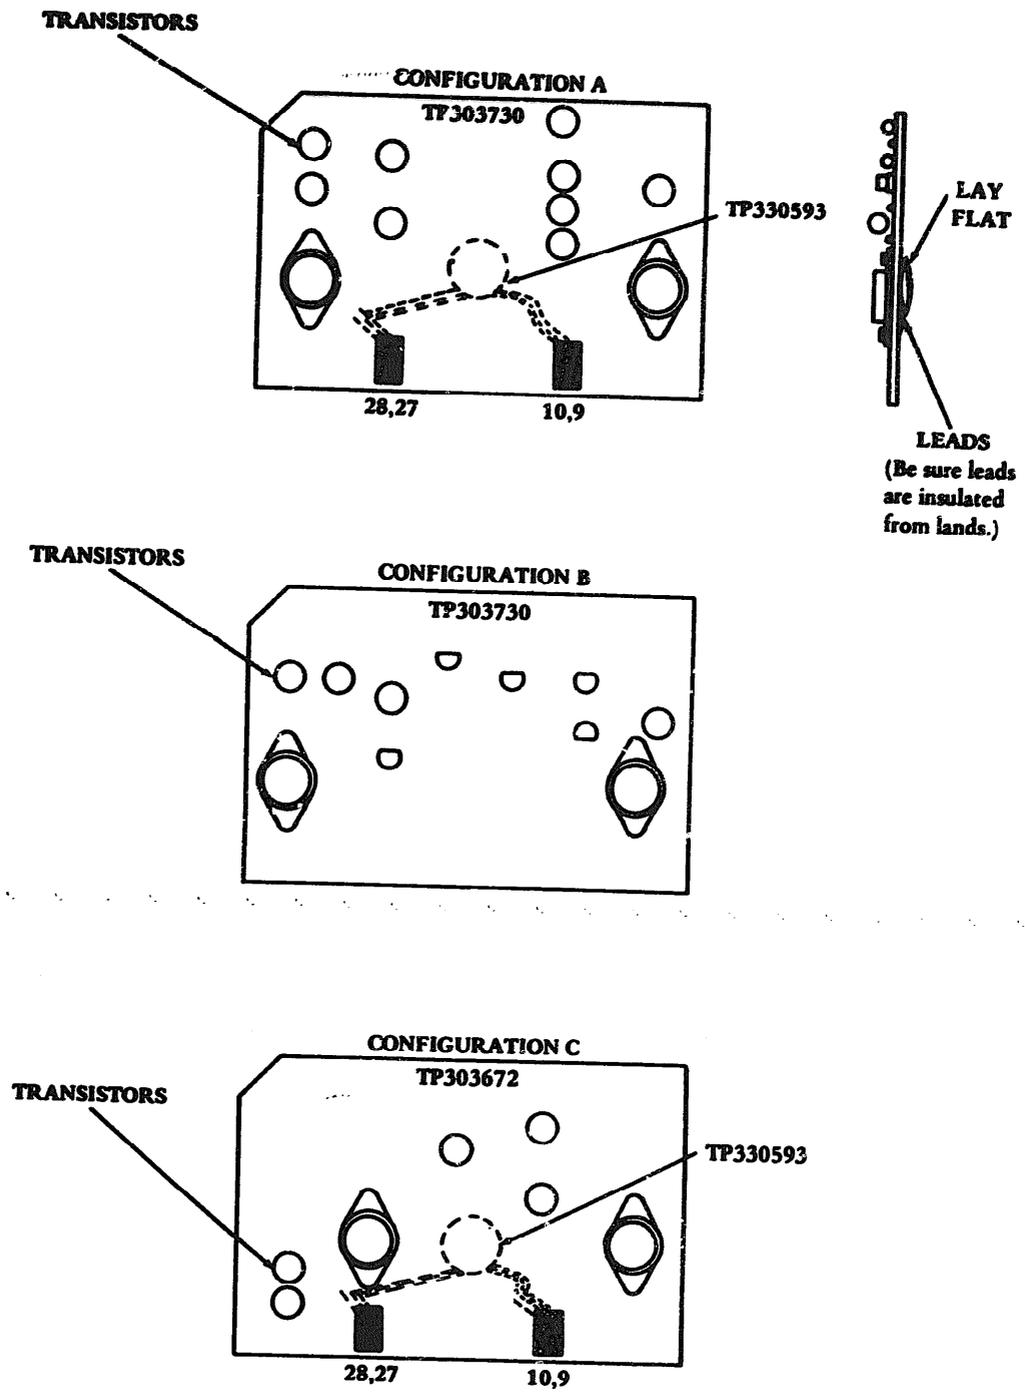

Figure 7 - Magnetic Driver Card Configurations
configurations shown in Figure 7. If the card conforms to configuration B nothing need be done to the card, replace it in the module.
- 3.1.3 If the card conforms to configuration A or C, remove nine cards from the locations given (3.12), from each module C. Place plastic tubing over each TP330593 capacitor lead, solder one lead to terminals 9 and 10 and the other lead to terminals 27 and 28 of the card (Figure 7).